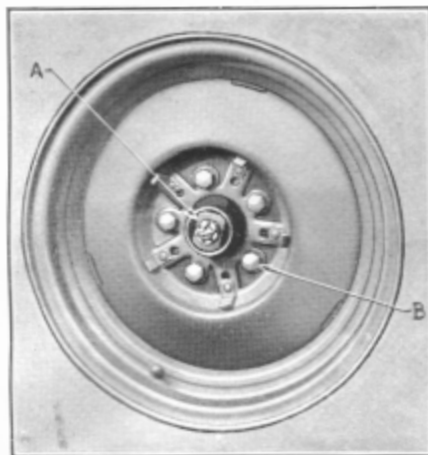

Figure 18
After jacking up the front axle and removing the hub cap, withdraw cotter key holding nut (A), Figure 18. Turn nut (A) to the right until a slight drag is felt when turning the wheel slightly by hand. Then loosen the nut just sufficiently to permit the wheel to turn freely. Insert cotter key.